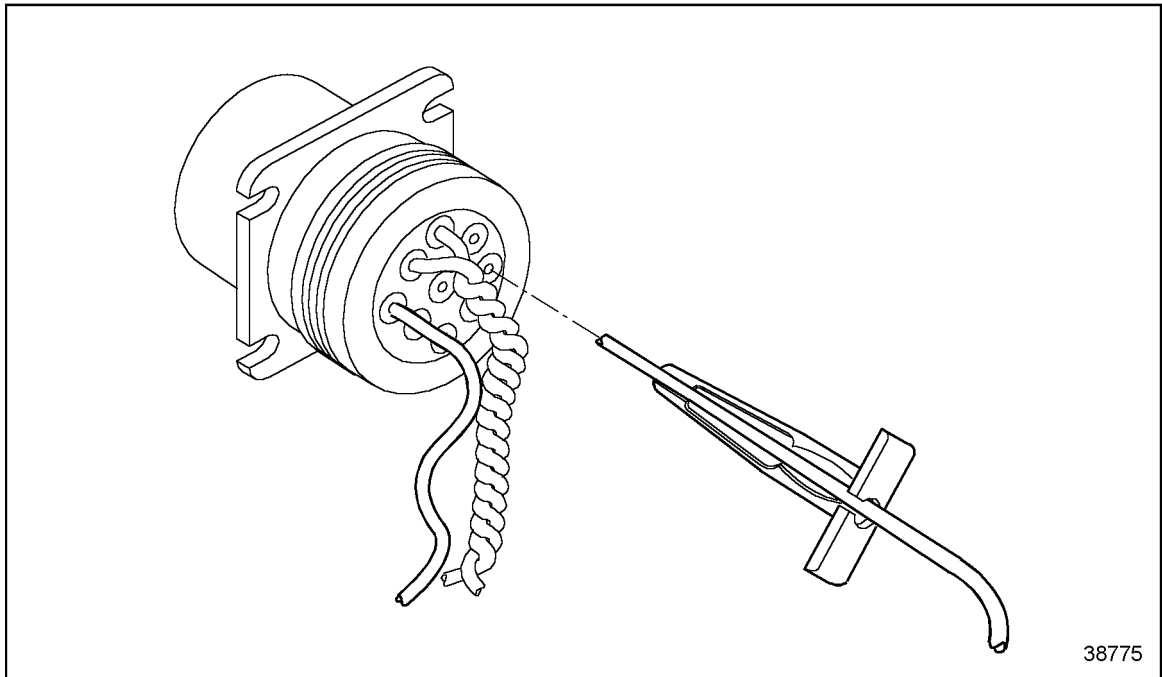

Figure 3-51 Removal Tool Insertion
2. Slide the tool along the cable into the insert cavity until it engages and resistance is felt. Do not twist or insert tool at an angle. See Figure 3-51.